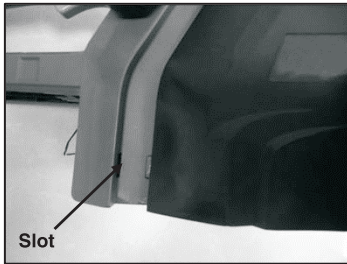
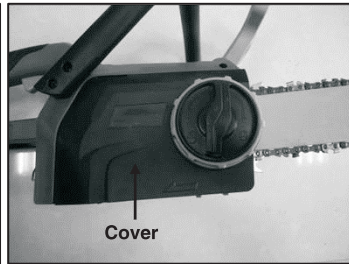

Fig. 2H
Fig. 2I
7. Insert the side cover to the slot and make sure the side cover is securely seated in a fixed way as shown in Fig. 2H/ Fig.2I.